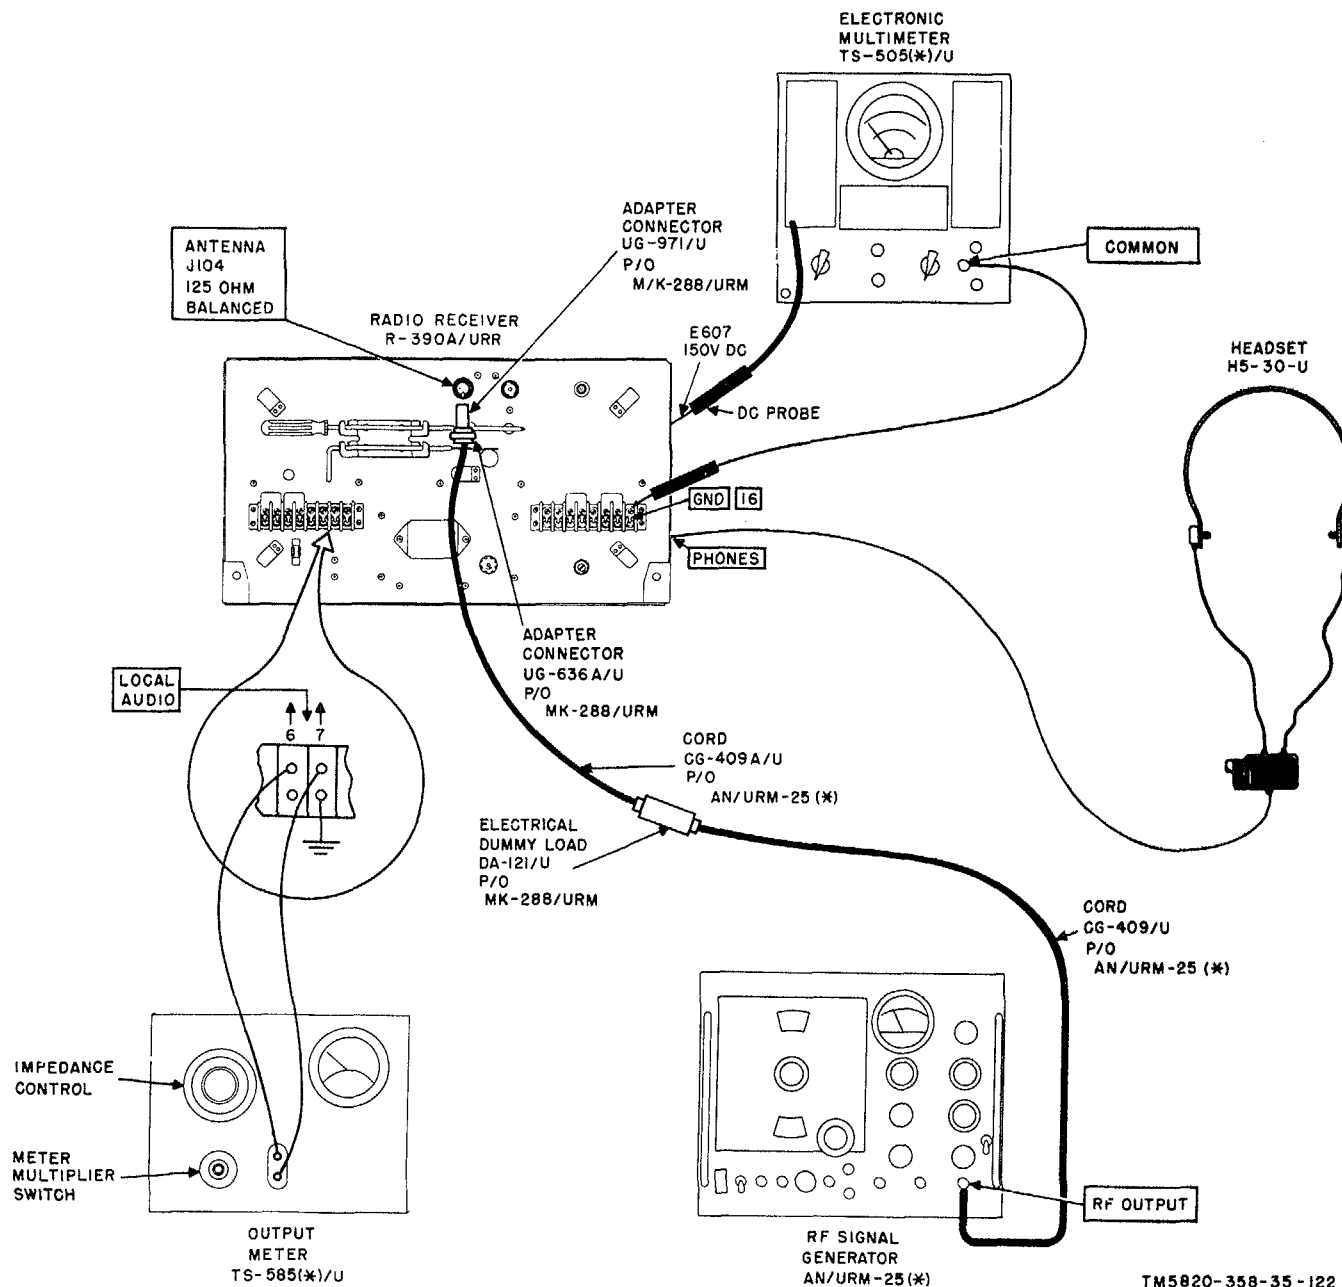

Figure 77. Sensitivity test setup.
(fig. 77)
b. Test Connections and Conditions. Connect the equipment as shown in figure 77. Do not connect the TS-505(\*)/U until instructed to do so in the Test procedure column.
| 1        | TS-505(*)/UFUNCTION: +D.C.RANGE: 250 V (400 V)AN/URM-25FATTENUATOR: 10(R.F. MULTIPLIER: X 10)MICROVOLTS: MAX (max ccw)FUNCTION SWITCH: CW (MOD. XTAL & METER SELECTOR: CW)%MOD AUDIO OUT LEVEL: max ccwSET RF OUTPUT: max ccw(Carrier control: max)(Carrier range switch: 300KC-50MC X MULT)BANDSWITCH: 0.6-1.5 (Frequency band switch: 300-950KC)TUNING: .750 (Main tuning dial: .750)TS-585(*)/UImpedance control: 60 X 10Meter multiplier switch: 100 | OVENS: OFFLOCAL GAIN: 10RF GAIN: 10BREAK IN: OFFLIMITER: OFFBFO PITCH: 0AGC: MEDBFO: ONBANDWIDTH: 16AUDIO RESPONSE: MEDLINE METER: OFFFUNCTION: MGCMEGACYCLE CHANGE and KILOCYCLE CHANGE: set for 00 750LINE GAIN: 0 | a. Short TS-505(*)/U DC and COMMON probe tips together, and turn ZERO ADJ control until meter pointer indicates exactly 0 volt. Connect TS-505(*)/U as shown in figure 77.b. Note and record indication on TS-505(*)/U meter.c. Disconnect TS-505(*)/U from receiver.d. Turn AN/URM-25F SET RF OUTPUT (carrier control) control clockwise until AN/URM-25F meter indicates full scale (10).e. Adjust receiver ANT TRIM control for peak indication on TS-585(*)/U meter. Adjust AN/URM-25F main tuning dial for peak TS-585(*)/U indication.f. Turn receiver BFO switch OFF and AN/URM-25F MICROVOLTS control max ccw.g. Set TS-585(*)/U meter multiplier switch to 1.h. Adjust receiver LOCAL GAIN control for 1 milliwatt indication on TS-585(*)/U meter.i. Turn AN/URM-25F FUNCTION SWITCH to 400 and adjust % MOD AUDIO OUT LEVEL control for indication of 30 on % MOD scale of AN/URM-25F meter.j. Turn AN/URM-25F MICROVOLTS control clockwise until TS-585(*)/U meter indicates 10 milliwatts.k. Adjust receiver ANT TRIM control for peak indication on TS-585(*)/U meter.l. Set AN/URM-25F FUNCTION SWITCH to CW. Readjust receiver LOCAL GAIN control for 1 milliwatt indication on TS-585(*)/U meter.m. Turn AN/URM-25F FUNCTION SWITCH to 400 and readjust MICROVOLTS control for 10 milliwatt indication on TS-585(*)/U meter.n. Repeat l and m above, if necessary, until TS-585(*)/U meter indicates 1 milliwatt with AN/URM-25F FUNCTION SWITCH in CW position, and 10 milliwatts in 400 position.o. Set AN/URM-25F FUNCTION SWITCH to CW; observe and note AN/URM-25F meter indication. | a. None.b. TS-505(*)/U meter should indicate between 146 and 154 vdc.c. None.d. None.e. None.f. None.g. None.h. None.i. None.j. None.k. None.l. None.m. None.n. None.o. AN/URM-25F meter should indicate not more than 4.0 microvolts. |